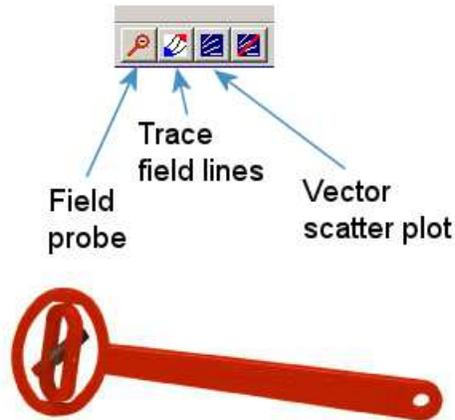

Figure 27: Tools to display vector information in the slice plot menu.
**PhiView** has useful tools to display the direction of the vector quantities  $\mathbf{E}$  and  $\mathbf{j}$  in slice plots. Figure 27 shows the corresponding entries on the toolbar.
This feature was inspired by the familiar Magnaprobe illustrated in Fig. 27. When you click on the tool and move the cursor into the slice-plot area, it changes to a semi-transparent probe that rotates about a pivot point to show the direction of the electric field. The direction also applies to the current density which is parallel to  $\mathbf{E}$  in isotropic media. The probe functions in all plot styles and may be combined with field-line traces and scatter plots. The status bar shows the coordinates and  $|\mathbf{E}|$  at the pivot point.